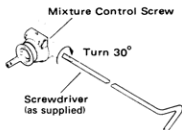

Fig. 31
- 2) If, at this point, the engine hesitates, puffing out a good deal of smoke, before picking up to full speed, it is probable that the idling mixture is too rich. In this case, it will be necessary to turn the Mixture Control Screw in the reverse direction from the + mark (i.e. clockwise) to weaken the mixture. About 1/12 turn (30°) should be sufficient (Fig. 31).